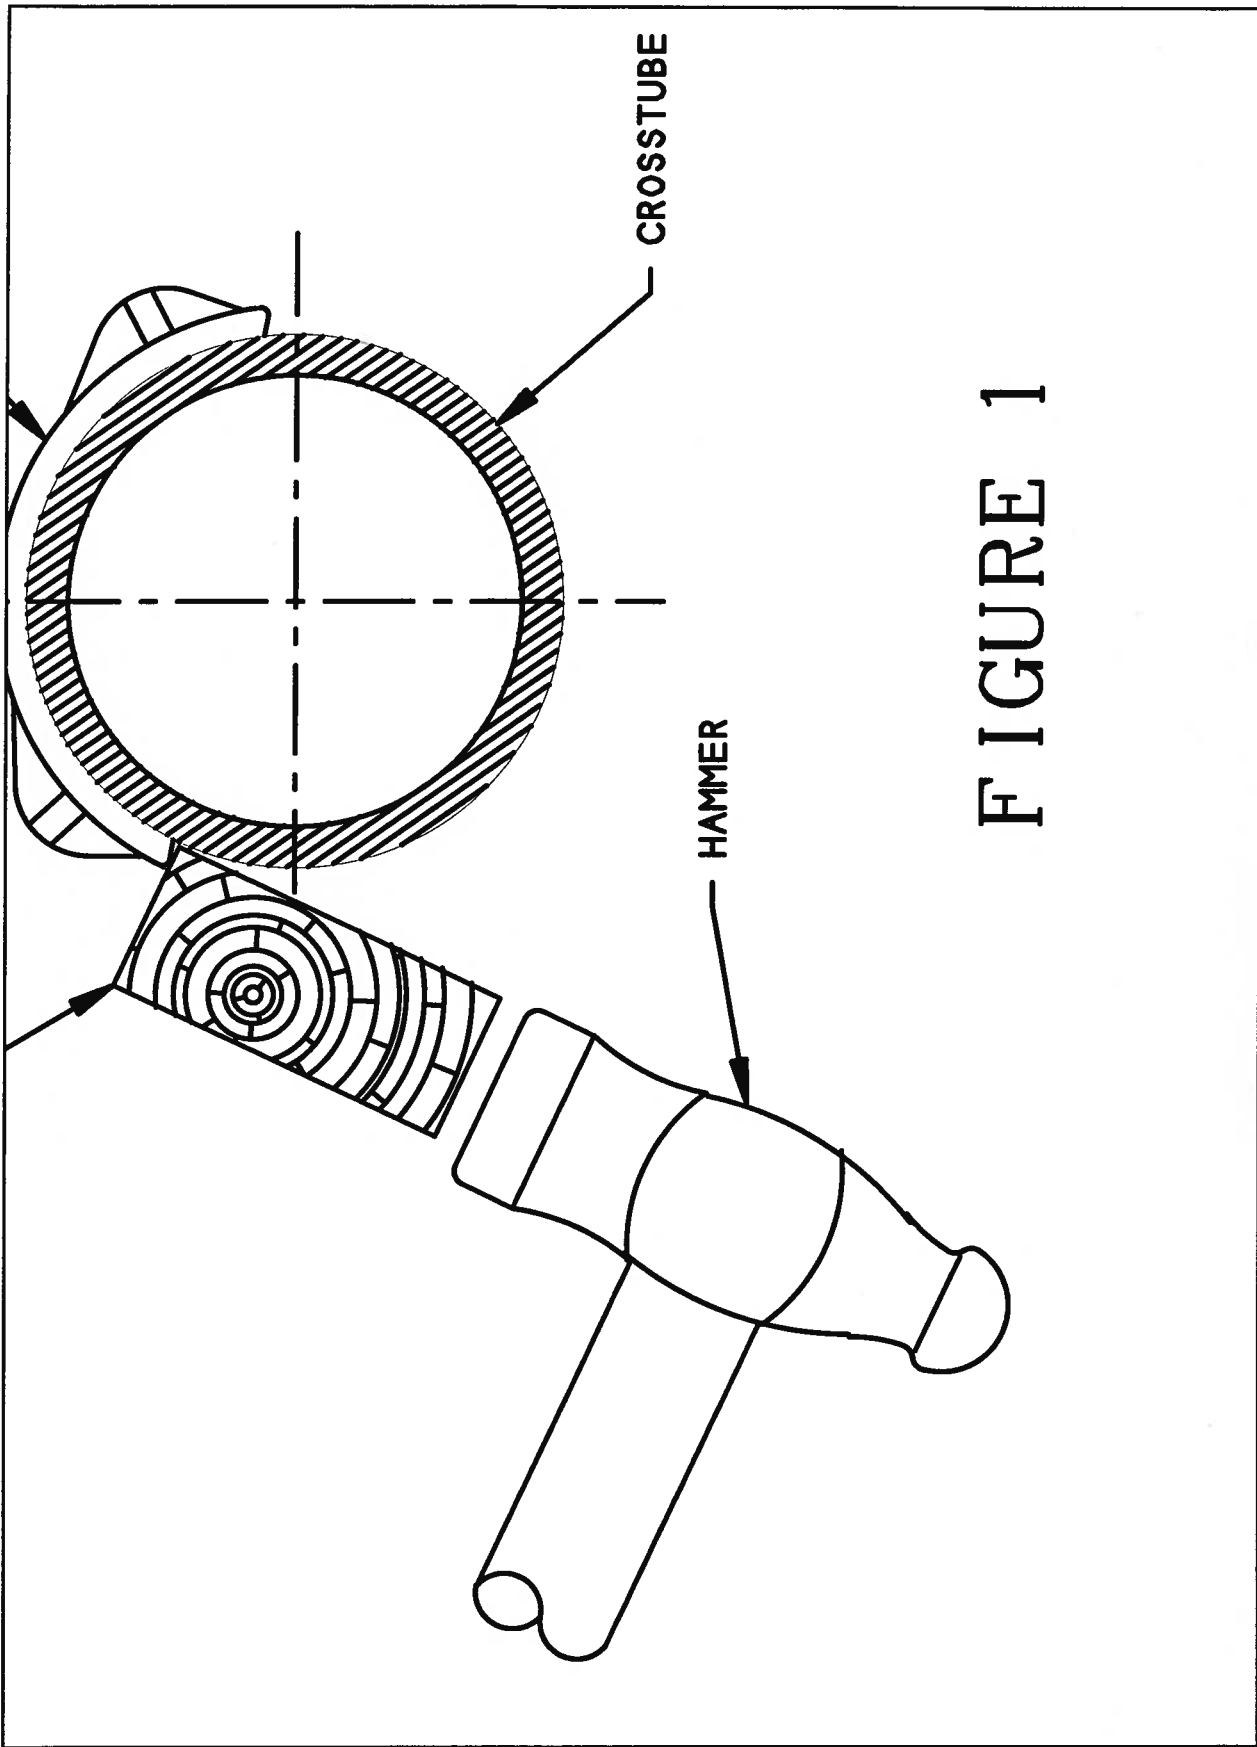

FIGURE 1
7. Use a Heat Gun to heat the Support/Sealant and remove the Clamp-On-Support. If necessary use a block of wood and hammer to strike the Support abutment in an upward motion to remove Support as shown in Figure 1. CAUTION: Support could be hot!